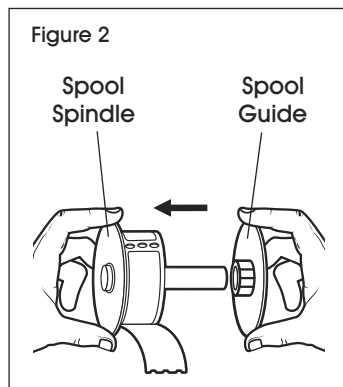

Figure 2
4. Hold spool spindle in left hand and place label roll on spindle so that labels feed from underneath and the left edge of the label roll is firmly against side of spool. (See Figure 2)
5. Slide spool guide onto right side of spool and press guide tightly against side of label roll, leaving no gap between roll and spool. (See Figure 2)